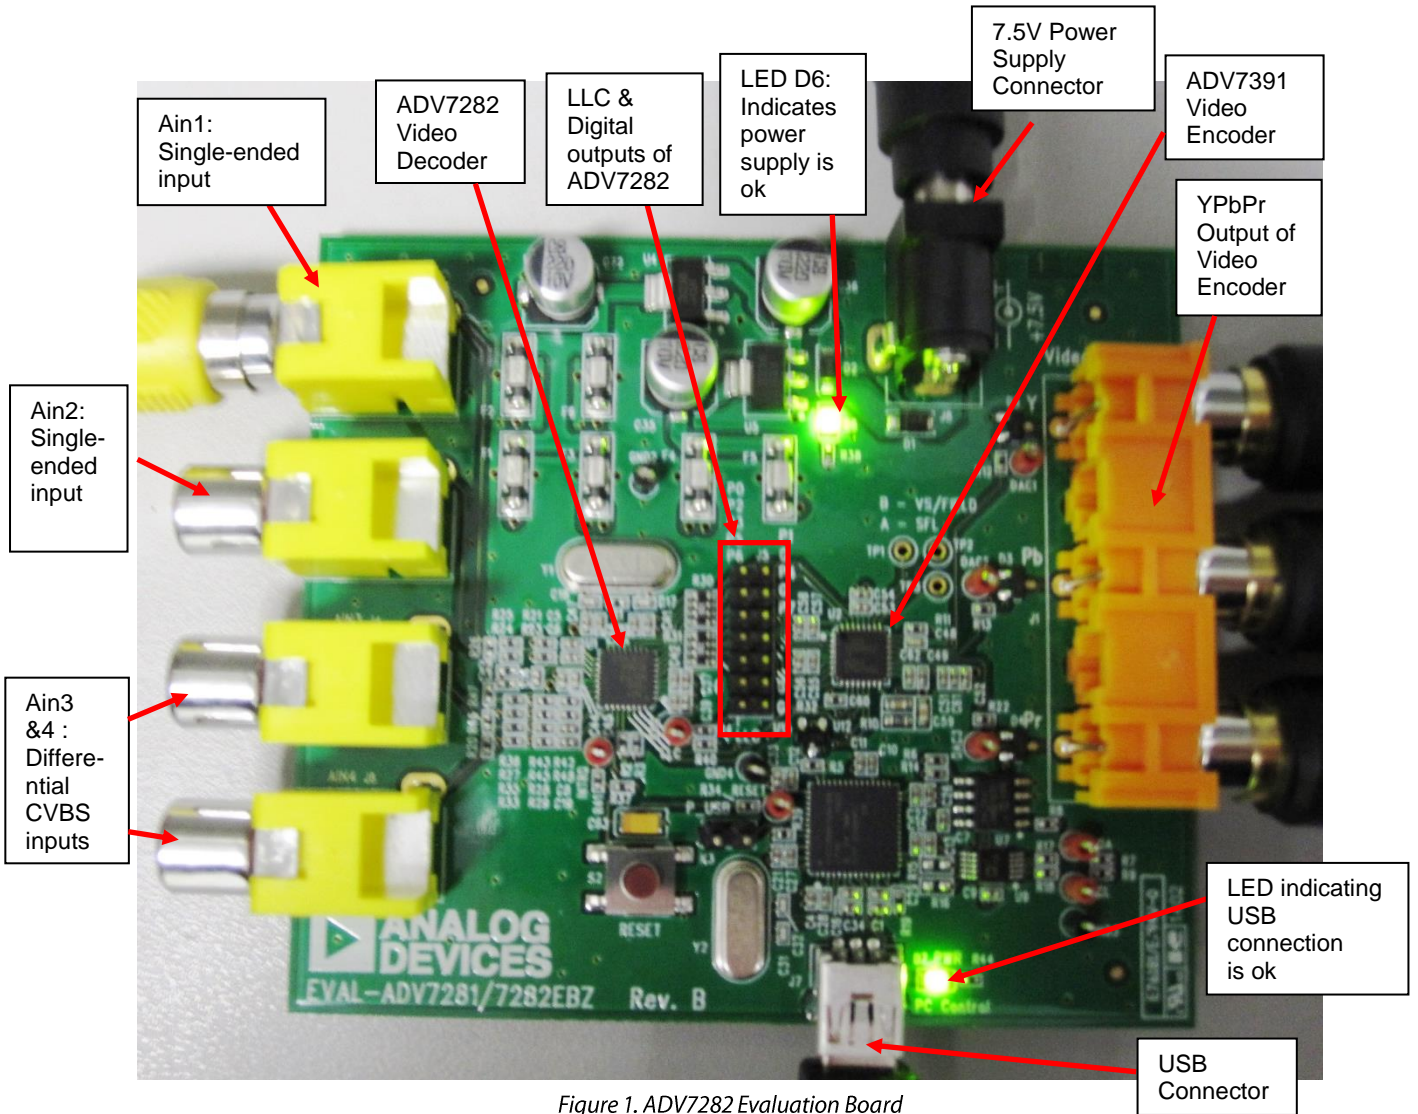

Figure 1. ADV7282 Evaluation Board
The digital output stream of the ADV7282 is fed to headers and into the ADV7391 video encoder (refer to Figure 1). The ADV7391 converts this digital stream into an analog YPbPr output. The analog YPrPb output from the ADV7391 is fed to the Video Output header of the evaluation board.
- Connect the 7.5 V supply cable to Jumper J8 on the ADV7282 evaluation board. When this is done correctly, LED D6 turns on (refer to Figure 1).
- Connect the other end of the USB cable to Jumper J7 of the ADV7282 evaluation board. When this is done correctly, LED D7 turns on (refer to Figure 1).
- The digital output of the ADV7282 can be probed with an oscilloscope or a digital grabbing device. The 8-bit pixel data and nominal 27MHz LLC are output to header J5. There are also a test point for the LLC pin. Refer to Figure 1.